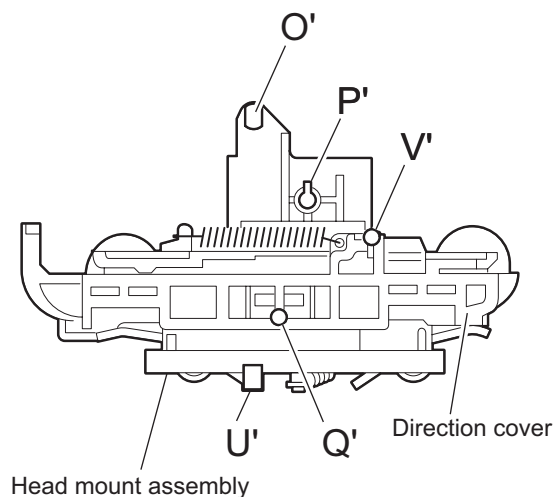

Fig.11
3.4.6 Reattaching the Play/ Record & Clear head (See Fig.11~13)
(1) Reattaching the head mount assembly.
- b) Fit the bosses **O'**, **P'**, **Q'**, **U'** and **V'** on the head mount assembly to the holes **P** and **V**, the slots **O**, **U** and **Q** of the mechanism sub assembly (See Fig.11 to 13).